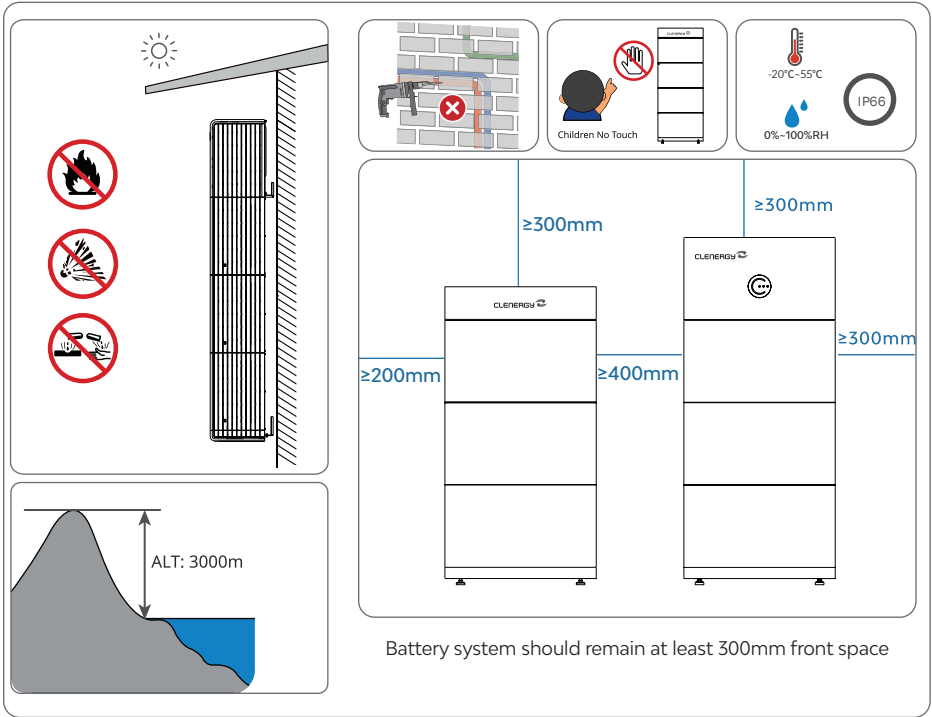

Figure 5-2 System installation requirement
- Maintain the minimum clearances shown in Figure 5-2 at all times.